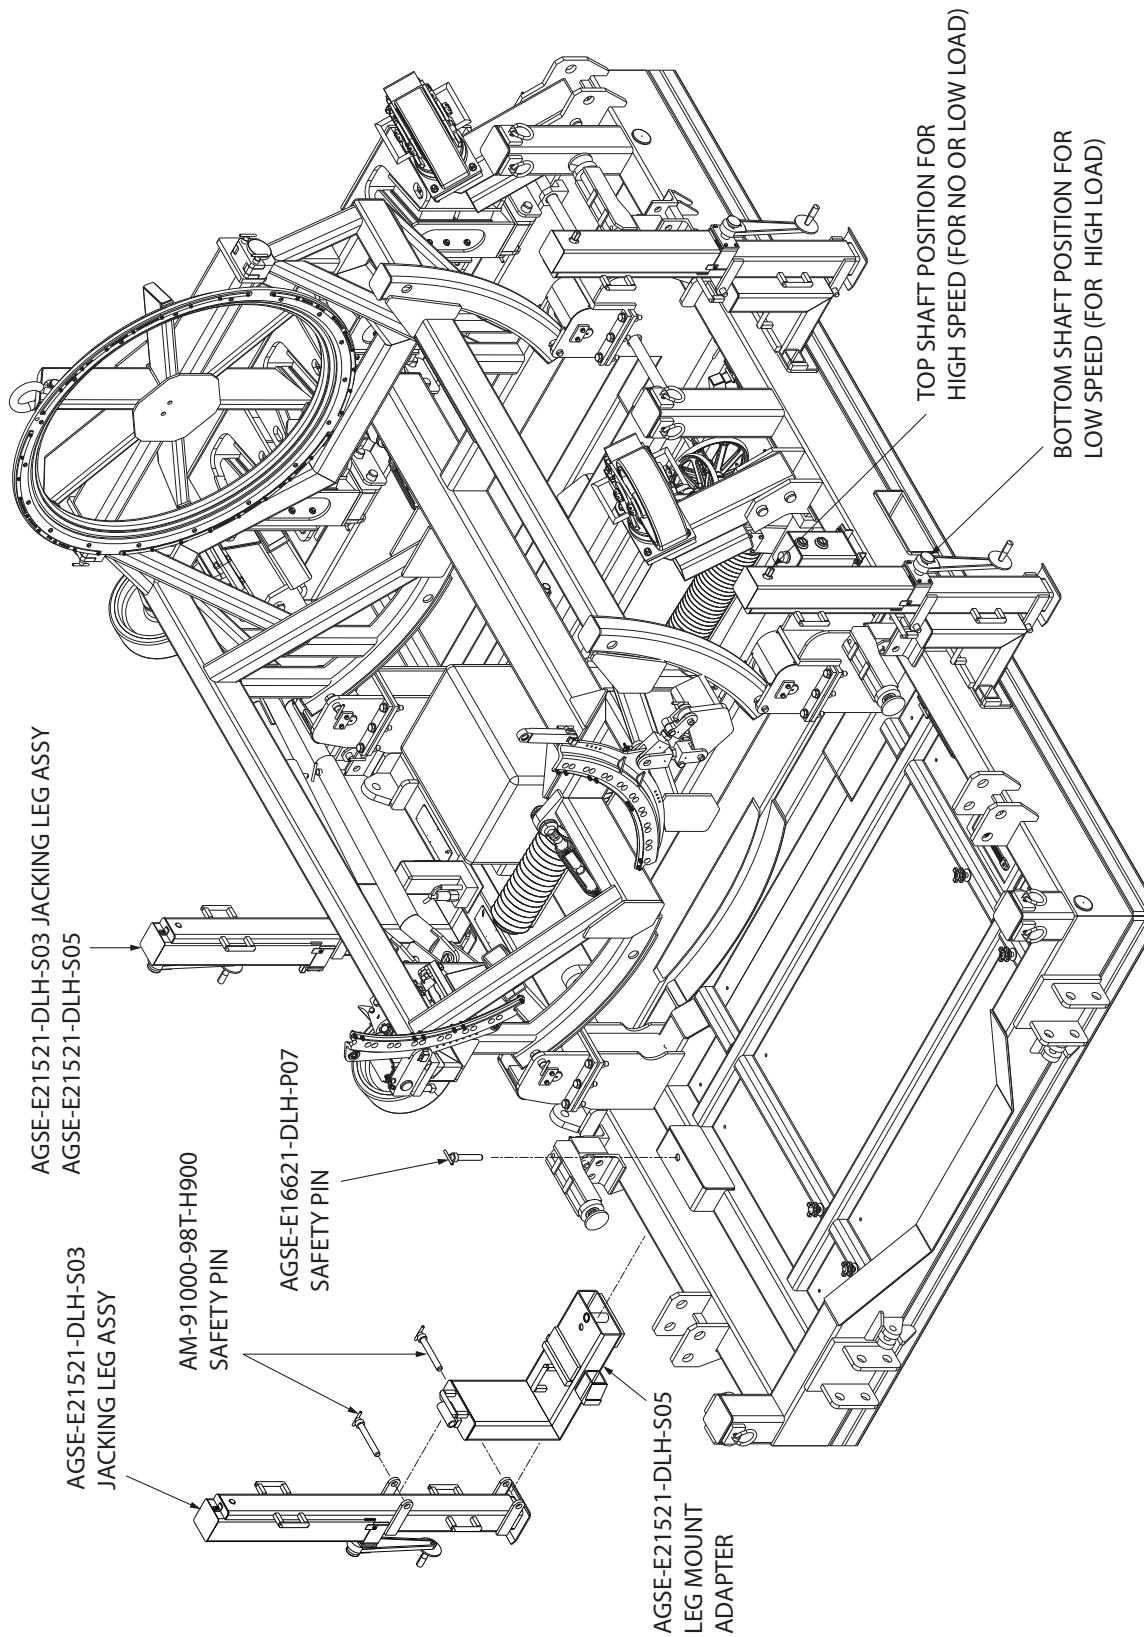

Figure 5.9-1
1. Install the two (2) AGSE-E21521-DLH-S05 RH and two (2) AGSE-E21521-DLH-S06 LH leg mount adapter assemblies in the jacking leg mounting sockets on the base. Secure using the AGSE-E16621-DLH-P07 safety pins and retainer clips. (Figure 5.9-1).